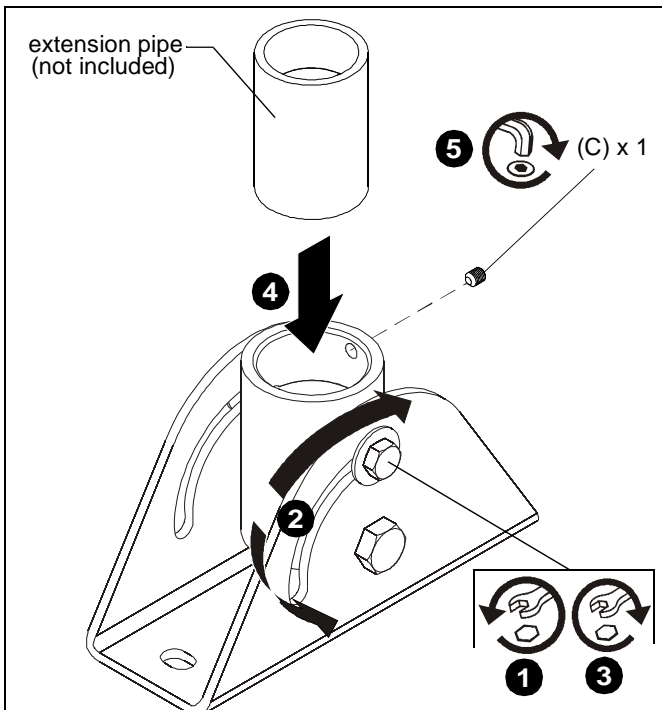

Figure 1
1. Loosen two angle adjustment screws to allow for adjustment of pipe coupler angle. (See Figure 1)
2. Adjust pipe coupler to desired angle. (See Figure 1)
3. Tighten two angle adjustment screws. (See Figure 1)
4. Install 1-1/2" NPT following ANSI/ASME B1.20.1 (Schedule 40, 0.154" minimum thickness aluminum - ASTM B221) threaded extension column (not included) into CMA395 until tight, with a minimum of four threads engaged. (See Figure 1)
5. Use set screw (C) to secure extension column to CMA395 coupler. (See Figure 1)